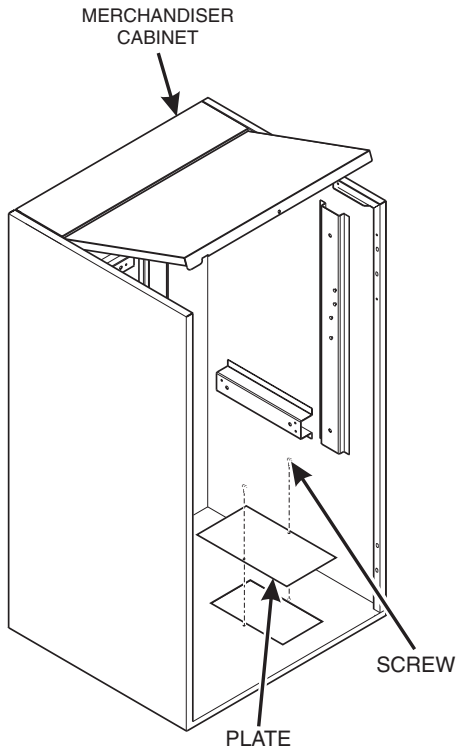
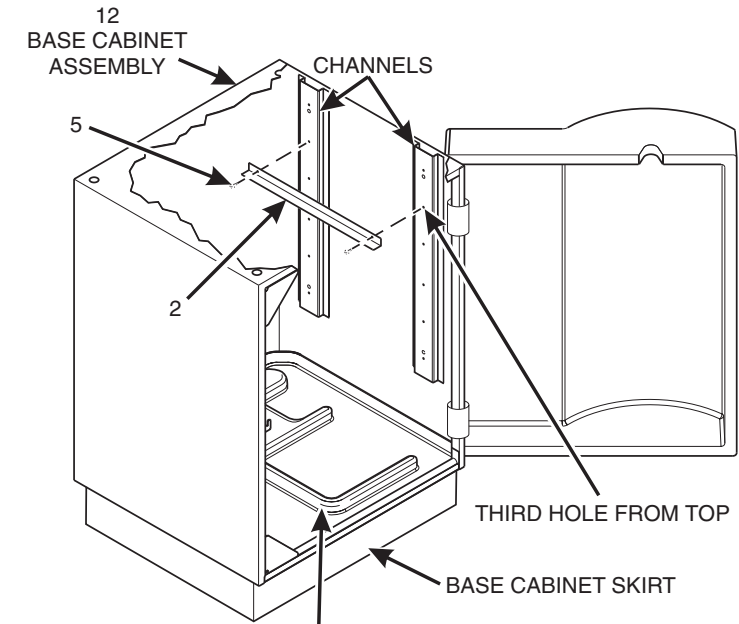

Figure 1 (Cafe' 7 Shown)
Figure 2 (Cafe' 7 Shown)
1. Remove the floor liners and grounds buckets from the base cabinet (12) and the merchandiser.
3. Remove two screws securing the plate to the bottom of the merchandiser as shown (figure 1). Remove the plate.
4. Place the floor liner you removed from the base cabinet (1) into the merchandiser. (This floor liner has a rectangular hole to allow coffee grounds and filter paper to pass through it into the base cabinet.)
5. Install the waste bucket spacer (2) to the holes on the right side of the cabinet as shown (figure 2). Secure with two screws (5).
6. Install the narrow base cabinet shelf (4) in the desired location on the left side of the base cabinet. Secure with screws (5). (The recommended mounting location is the fourth set of holes from the top.)